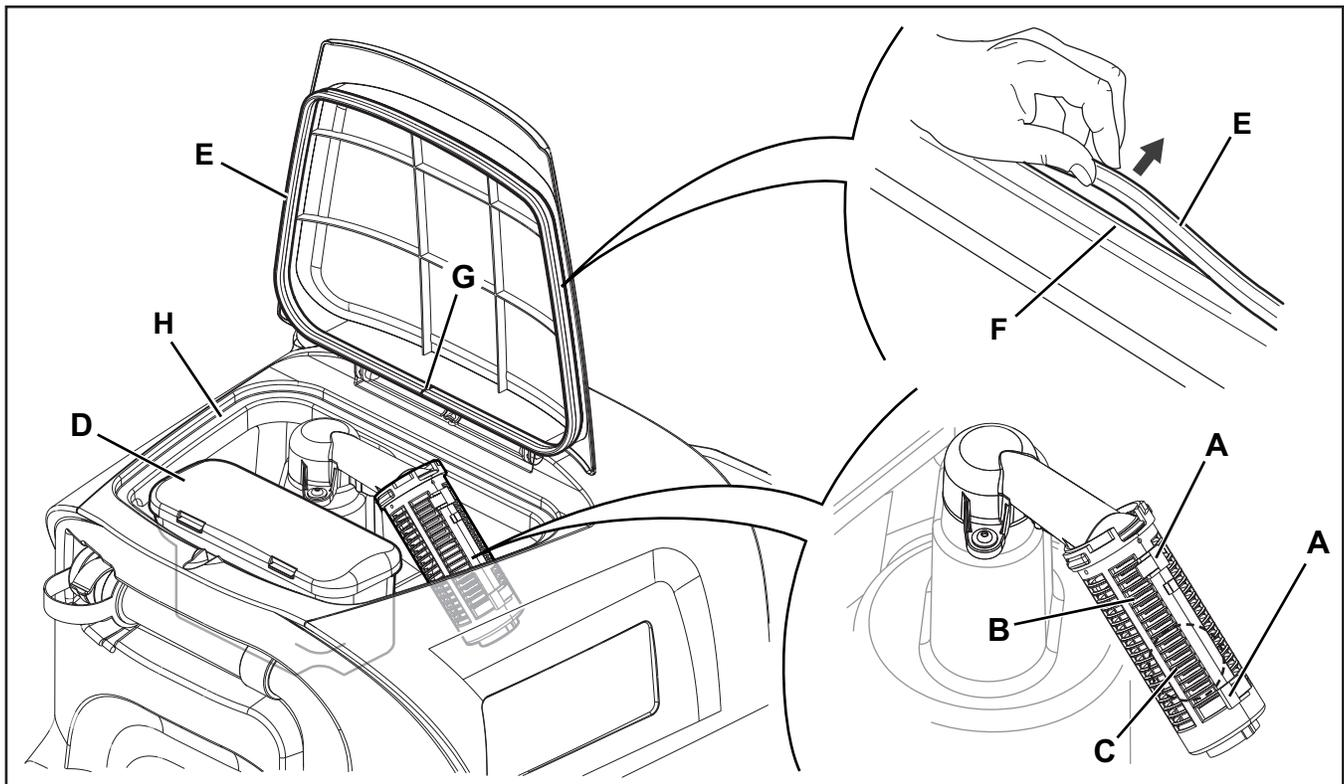

Figure 4
4. Clean the vacuum grid (B) (Figure 4), release the fasteners (A), open the grid (B) and recover the float (C), then clean carefully and reinstall.
5. Remove the debris collection tank (D) and open its cover, then clean it carefully.
8. Check the condition of the tank cover gasket (E).
9. If necessary, replace the gasket (E) by removing it from its housing (F). When fitting the new gasket, position the joint (G) in the area shown in the figure.
10. Check that the seating surface (H) of the gasket (E) is in good condition, clean and suitable to form a seal with the gasket itself.